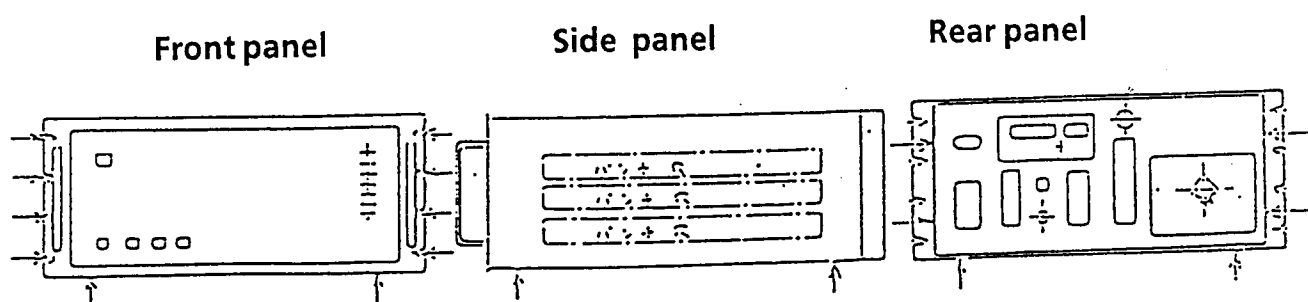

Fig. 9 Fixing positions of the control unit
- (3) Screw the front panel on the rack. Protect the control unit and the rack from damage by pushing them from left and right sides as shown in Fig. 9.
- (4) The control unit inhales and exhales cooling air from the upper, lower and side faces. **DO NOT** prevent air flow taking a space of more than 2cm between each face and the wall, etc.
- (5) **DO NOT** bend the cables taking the space of more than 15cm between the rear face of the control unit and the wall.